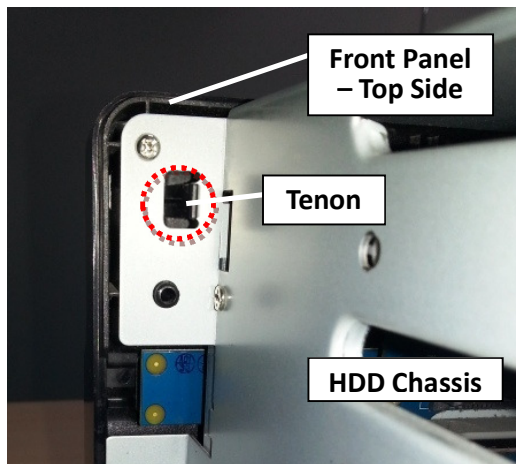
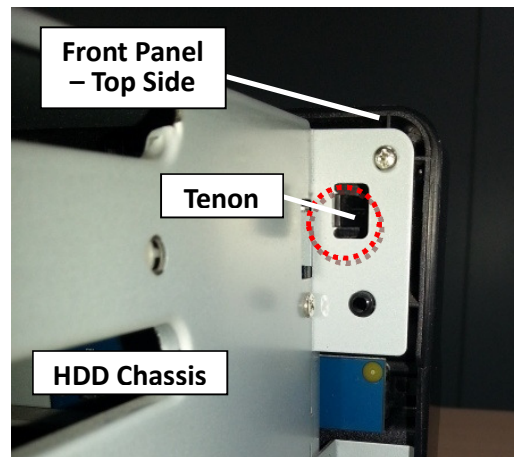

Fig. 57 – Right Side
Fig. 58 – Left Side
- 3.1.11 Release the tenon on each side of the front panel interior (Marked by the red circles). Then push the front panel outwards to remove it from the enclosure. (Fig. 57 for the right side and Fig. 58 the left side)